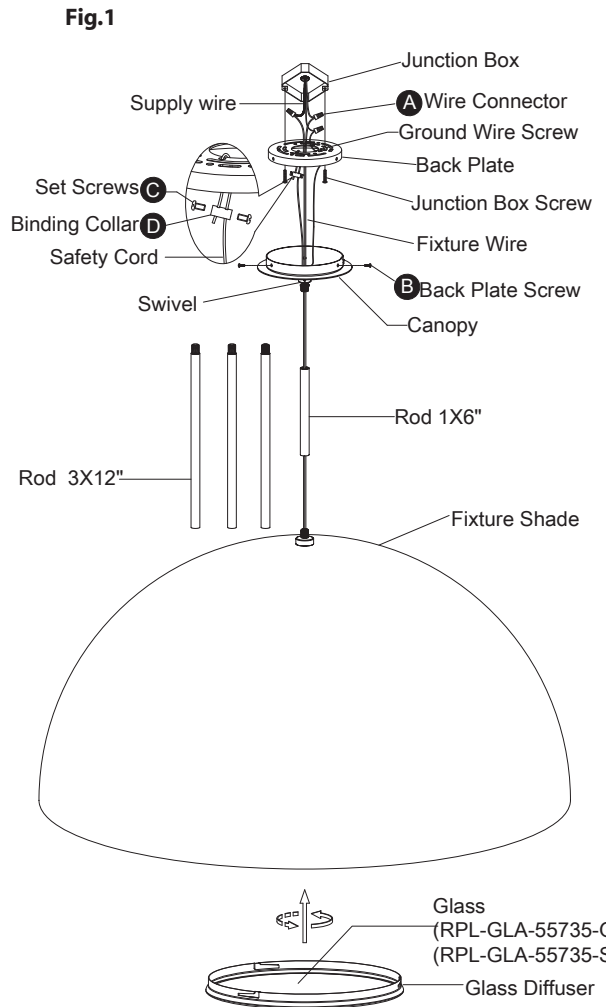

Fig. 2 Wiring
CONNECTING THE WIRES (Fig. 2)
8. Connect the fixture wires to junction box wires as shown (Fig. 2). Make sure that all wire connectors (A) are secure. If your outlet box has green or bare copper ground wire, connect the fixture's ground wire to it. Otherwise, connect the fixture's ground wire directly to the back plate using the green screw provided. After wires are connected, tuck them carefully inside the junction box.